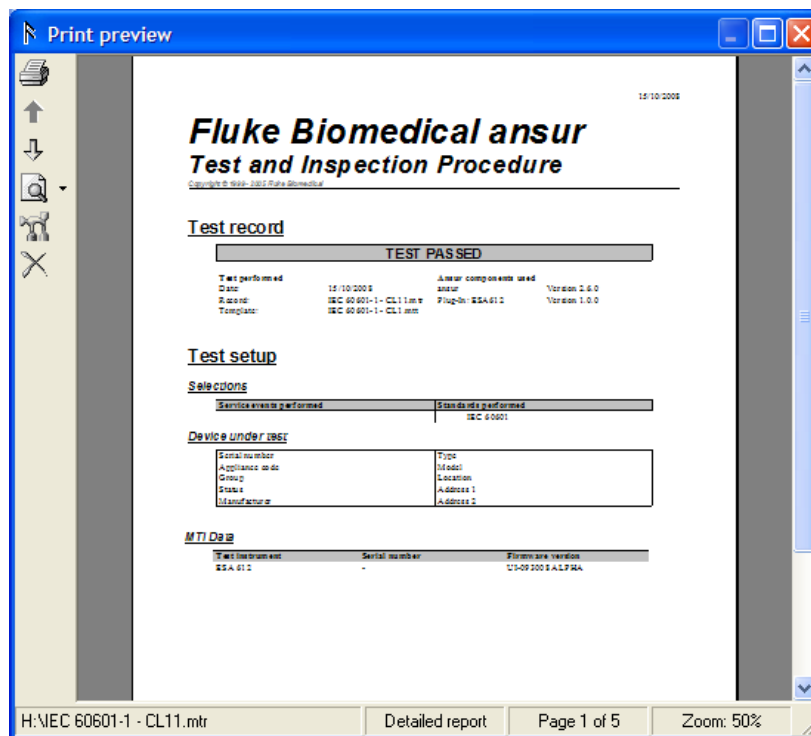

Figure 3-18. Print Preview of Test Report
2. Select the desired print type and click the Print button to display the report in the preview window as shown in Figure 3-18.